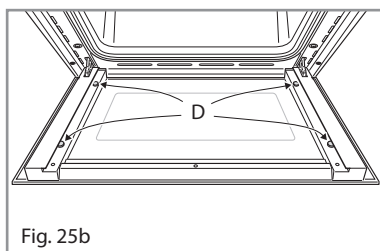

Fig. 25b
- Check the correct positioning of the no.4 (four) silicone rubbers “D” (fig. 25b).